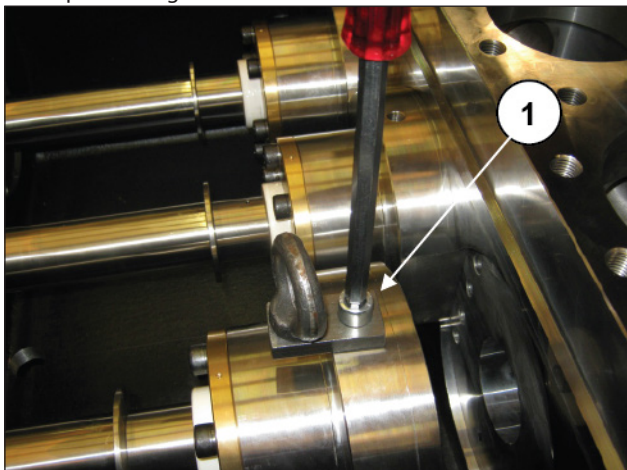
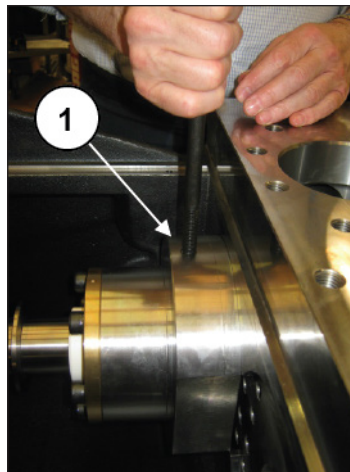

Fig. 237
Fig. 238
Remove the lifting accessory (pos. ①, Fig. 237) and fit an M12 screw or threaded bar in the threaded hole on the support (pos. ①, Fig. 238) in order to aid orientation of the assembly when positioning it on the manifold.